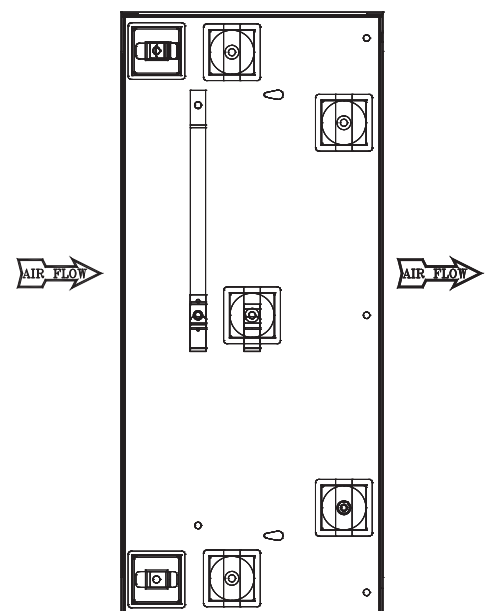

Figure 6 – Correct Cell Orientation
2. Insert the electronic cells into the cabinet with THIS SIDE OUT label facing the door opening. Make certain the arrow stamped on the cell points downstream. See Figure 6.